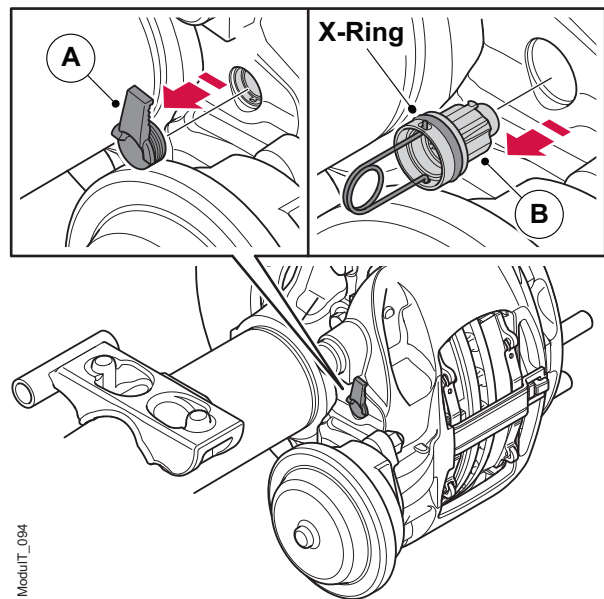

Figure 66. Removing the reset shaft
2. Remove the reset shaft protection plug (A).
3. Insert Haldex special tool P/N 95210 and pull out the reset shaft (B) with x-ring complete, see figure 66.